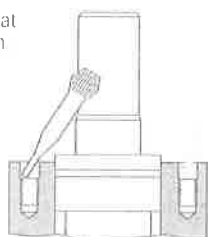

Figure 13
26. Apply 3 or 4 drops of Loctite sealant at top of thread for each of four holes in housing (see Figure 13). Do not allow parts with Loctite applied to come in contact with any metal parts other than those for assembly. Wipe off excess Loctite from housing face, using a nonpetroleum base solvent.